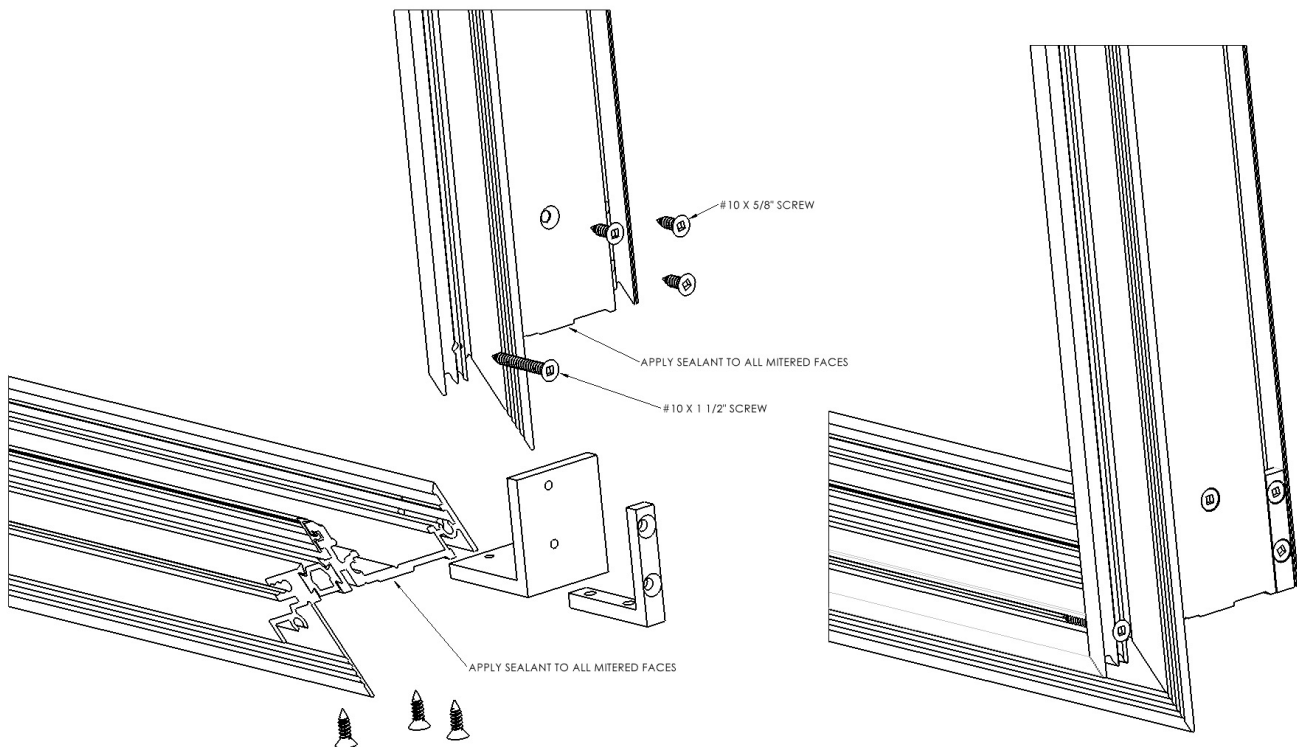

Figure 15***
7. Assemble the corners of the perimeter frame using the two keys and #10 x 5/8" screws. Apply a generous coat of Dow 795 sealant or equivalent to each mitred face. For perimeter frames with a nail fin, an additional screw will be used on the outer corner. (See Figure 15)